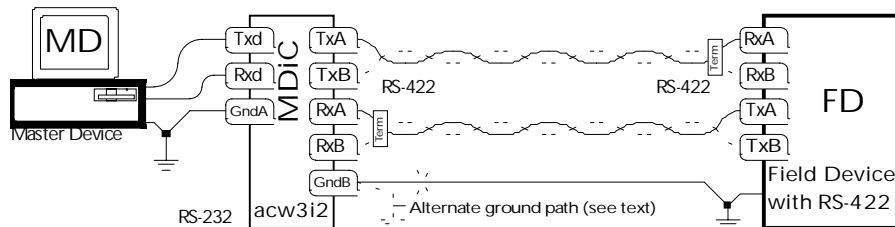

Figure 1: Example 4-wire RS-422 Link
Figure 1 shows a 4-wire RS-422 link, consisting of a Master Device (MD) and a Field Device (FD). It also includes a galvanically isolated RS-232 to RS-422 converter (MDiC)